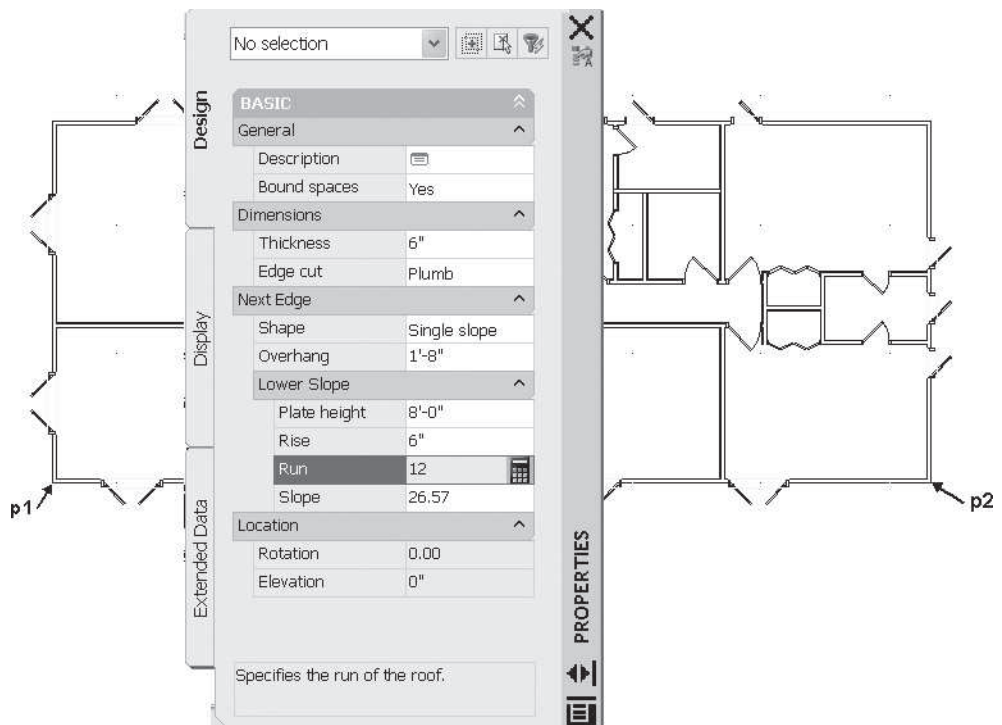

FIGURE 7.67 Settings in the Properties palette
10. Choose the **Home** tab. If the Design palette set is not displayed, choose Tools of the Build panel. Choose Design palette. Select the **Roof** command from the Design palette and edit the Design tab of the Properties palette as follows: Basic—Dimensions: Thickness = **6 [150]**, Edge cut = **Plumb**, Next Edge: Shape = **Single slope**, Overhang = **20 [500]**, Lower Slope: Plate height = **8' [2500]**, Rise = **6 [50]**, as shown in Figure 7.67. Respond to the following prompts by selecting roof points as specified below:
Roof point or: (Select the intersection of lines representing the outside of stud, point p1 in Figure 7.67.)
Roof point or: (Select the intersection of lines representing the outside of stud, point p2 in Figure 7.67.)